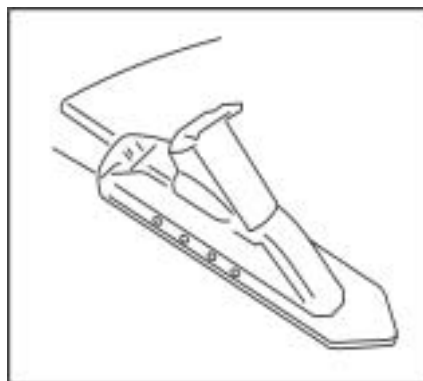

Fig.28
- The position of the jaw (Fig.28) on the turntable is controlled by the movement of the piston rod, which in turn is controlled by pedal " ". There are three levels for pedal " ". When pedal " " is placed on high, the piston rod will move inward and pull the jaws moving inward until the minimum.